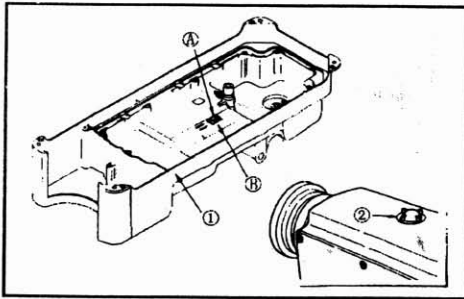
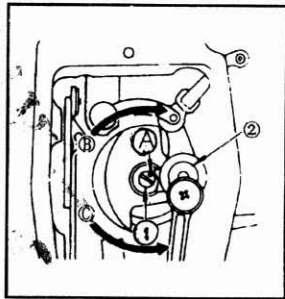

Fig.5
Fig.6
2. LUBRICATION (Fig.5, Fig.6)
1. Information on lubrication (Fig.5)
2. Adjusting the amount of oil supplied to the face plate parts (Fig.6)